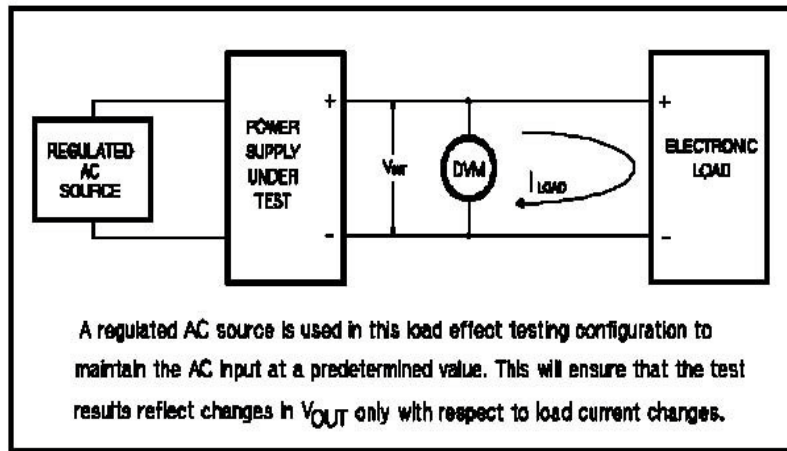

Figure 5-5 Basic test setup
- 1 Connect the test equipment across the output of the +20 V supply as shown in Figure 5-5. Operate the electronic load in constant current mode and set its current to the full rated value of the +20 V supply. Input off the electronic load.
- 4 Operate the electronic load in open (input off) mode and recheck the DVM indication immediately. The readings' difference during the immediate change should be within 0.01% plus 2 mV of the reading in step (3).
- 5 Repeat steps (1) through (4) for each of the remaining supply outputs.
- 2 Connect the test equipment across the output of the +20 V supply as shown in Figure 5-5. Operate the electronic load in constant current mode and set its current to the full rated value of the +20 V supply. Input off the electronic load.
- 5 Adjust the autotransformer for high line voltage input (+10% of nominal voltage) and recheck the DVM indication immediately. The readings' difference during the immediate change should be within 0.01% plus 2 mV of the reading in step (4).
- 6 Repeat steps (2) through (5) for each of the remaining supply outputs.
- 1 Connect the test equipment across the output of the +20 V supply as shown in Figure 5-5, but replace the DVM with the oscilloscope. Operate the electronic load in constant current mode.
- 1** Connect the test equipment across the output of the +20 V supply as shown in Figure 5-5.